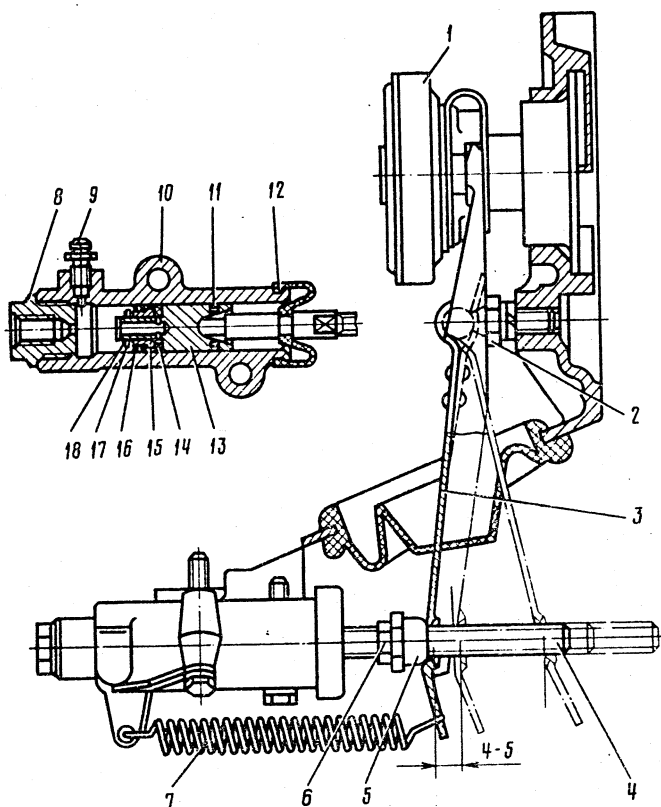

Fig. 3-3. Clutch Operating Cylinder and Release Yoke:
- adjust the free travel of the operating cylinder pushrod (4 to 5 mm) with nut 5 (Fig. 3-3)
cylinder bleeder pipe union 9 (Fig. 3-3) and dip
The first thing to do is to drain the hydraulic fluid. For this purpose slip one end of the hose on bleeder pipe union 9 (Fig. 3-3) of the operating cylinder, dip its other end into a clean vessel, unscrew pipe union 9 through 1/2 - 3/4 of a revolution and keep pressing the pedal until all fluid is drained from the hydraulic system. Then disconnect the pipes running between the master and operating cylinders, disconnect retracting spring 7, remove the cotter pin from the end of the pushrod, unscrew the two bolts which fasten the operating cylinder and remove the latter.